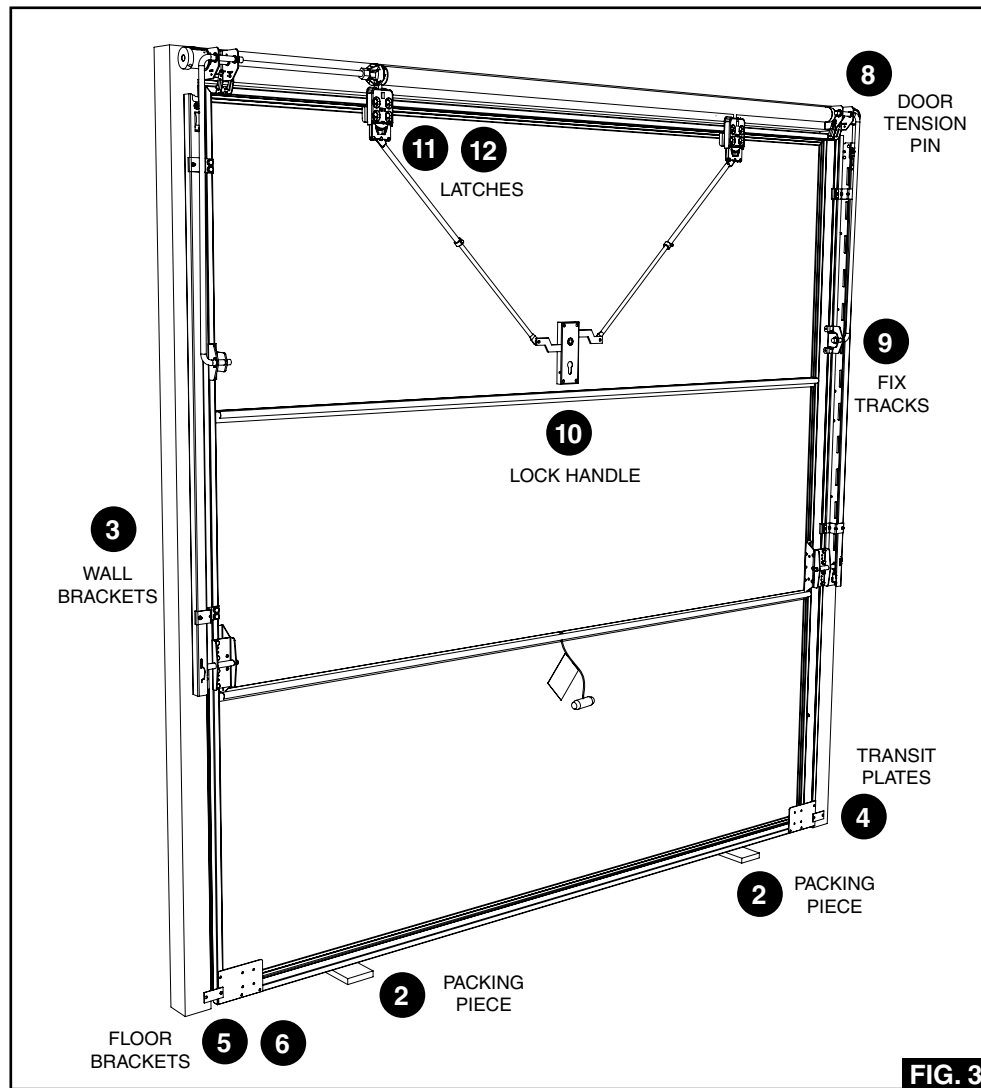

FIG. 3
2. Place door unit central in aperture wedging in position if necessary (See Fig 3).